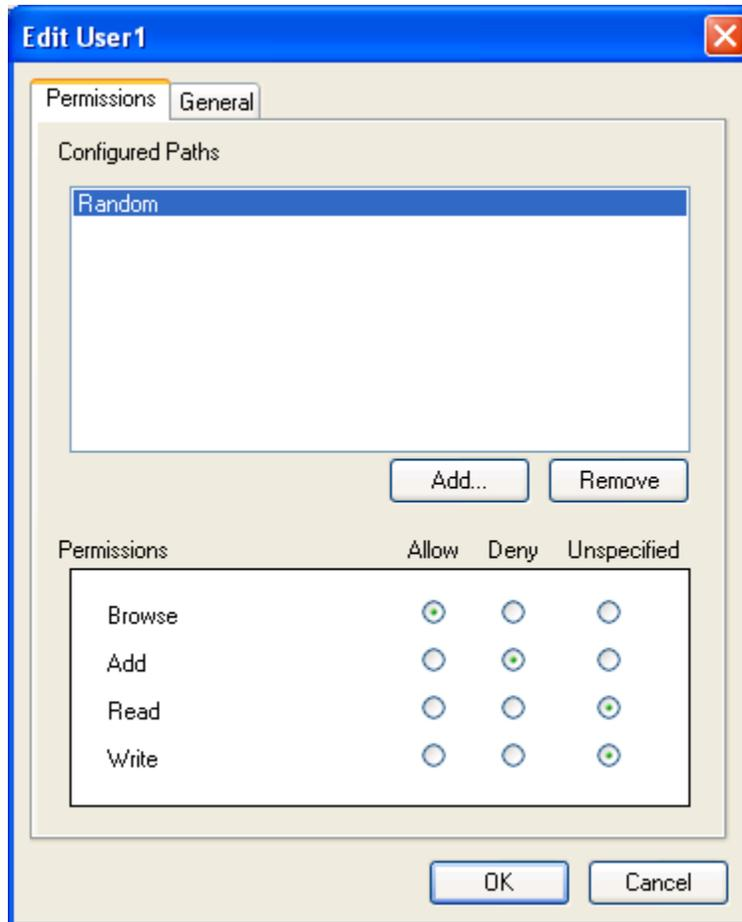

Figure 55 - Edit <Username>: Example
5. The selected path or item will be listed in the **Configured Paths** screen section of the **Edit User** window. Permissions can now be assigned, as in the example depicted in Figure 55.